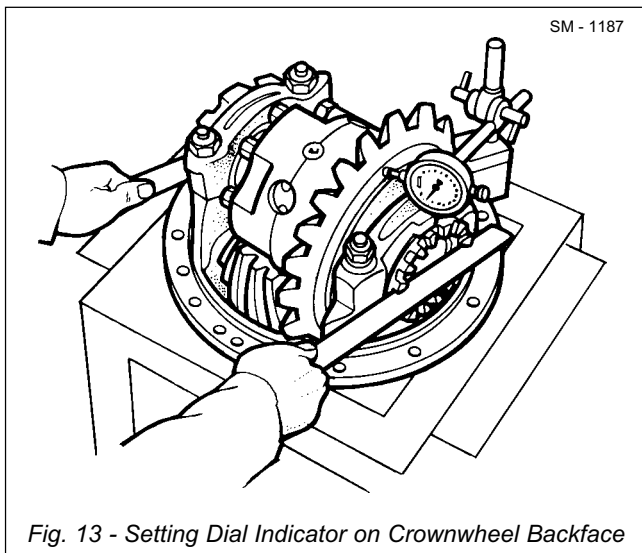
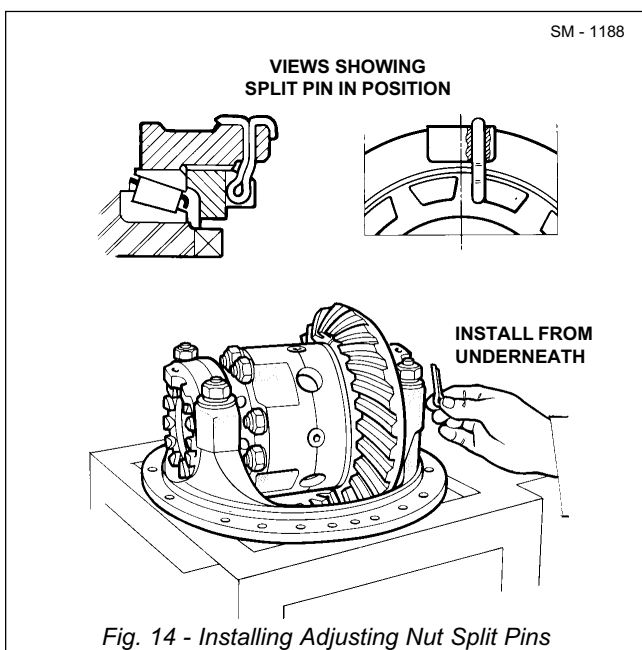

Fig. 13 - Setting Dial Indicator on Crownwheel Backface
Fig. 14 - Installing Adjusting Nut Split Pins
1. Set up dial indicator on back face of crownwheel (25) as shown in Fig. 13 and screw in each adjusting nut (23) just sufficiently to ensure that no crownwheel axial movement is registered on dial indicator.
2. Tap straps (33) and rotate crownwheel, then re-check that no axial movement is present.
3. Turn each adjusting nut (23) until nut slots line up with one of the two split pin holes in straps (33). Install two split pins (51) as shown in Fig. 14.